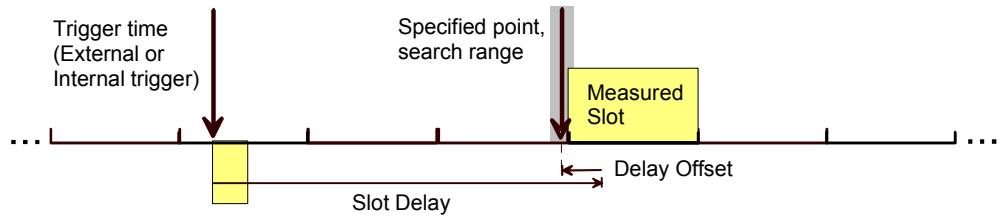

Fig. 4-72 Slot Delay and Delay Offset
- External* External trigger signal fed in via connector AUX 3 (pin 8)³. The required timing information is provided by the rising or falling edge (see *Slope* setting below) of an external trigger signal to which a trigger delay can be added. The beginning of the measured slot is searched in a symmetric time range of ±380 chips around the specified point, which is given by the trigger time plus the defined trigger delay (see *Fig. 4-72 below*). Compared to the *Free Run* mode, the search range is smaller so that the measurement is faster.
- Internal* Trigger provided by internal RF generator (with option CMU-K66, *WCDMA (3GPP/FDD, DL) Generator*, only), according to the frame timing of the UL signal re-transmitted by the UE under test (frame trigger). The CMU assumes a delay of 1024 chip periods between the downlink and the uplink timing (3GPP standard timing offset). The beginning of the measured slot is searched as described for the *External* trigger (exception: *Inner Loop TPC* measurement; see section *Test Scenarios for Inner Loop TPC* on p. 4.3 ff.). Again, a trigger delay can be added to the frame trigger time (see *Fig. 4-72 below*). In addition to the frame trigger, a slot trigger signal at the beginning of each DL slot and a TPC trigger signal at the beginning of each TPC profile is provided.
The frame and slot trigger signals are always available while the RF generator is switched on. The TPC trigger is available while the generator transfers a TPC pattern. The trigger signals are also fed to pin 2 (frame trigger), pin 3 (slot trigger), and pin 4 (TPC trigger) of the AUX 3 connector at the front of the instrument where they can be tapped off to synchronize external devices. All trigger signals are low-pulse TTL signals with a length of $\frac{1}{4}$ slot ($166 \frac{2}{3} \mu\text{s}$); see Fig. 4-72 below.
The *Slot Delay* parameter defines a delay time (integer number of slots) between the trigger time and the start of the measurement. If a frame-periodic internal or external trigger signal is available, *Slot Delay* can be used to select any slot of the frame as measured slot. An additional *Delay Offset* can be added to the *Slot Delay*; see Fig. 4-72 below.